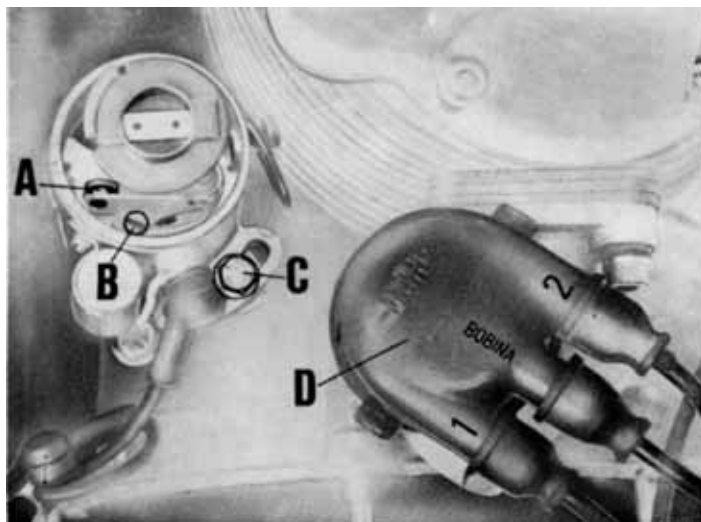

Fig. 19
Distributor (See fig. 19)
Remove generator belt cover. Check that the distributor contact points are 0.42-0.48 mm. (.016"-0.018") apart. Ensure the left cylinder (2) is on its compression stroke i.e. with both valves closed. Rotate the generator pulley on the crankshaft till the slot (fig. 19/1) is opposite mark A traced on the timing cover.
If the points start to open before or after the mentioned point, slacken distributor securing bolt C (fig. 19) and turn the distributor to the right or left to the position where the points start opening at the proper time.